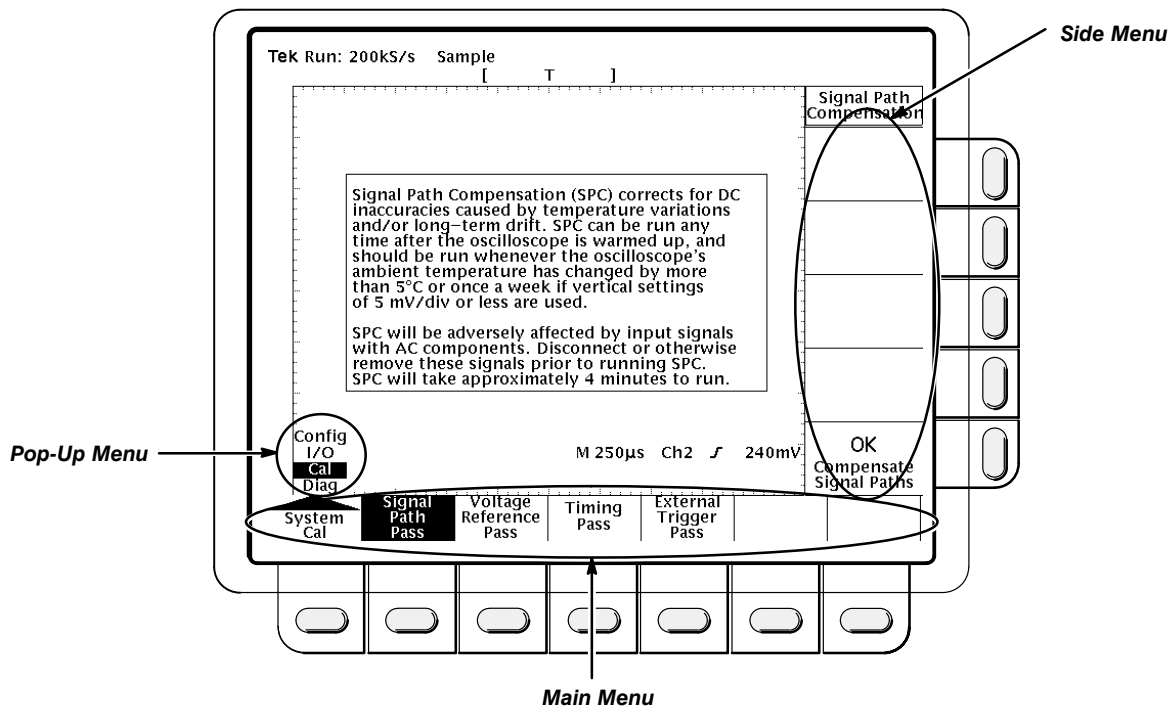

Figure 4-1: Menu Locations
- Refer to Figure 4-1: “Main menu” refers to the menu that labels the seven menu buttons under the display. “Side menu” refers to the menu that labels the five buttons to the right of the display. “Pop-up menu” refers to a menu that pops up when a main menu button is pressed.
6. Check that a square-wave probe-compensation signal of about five divisions in amplitude is on screen. (See Figure 4-1 on page 4-2 to locate the readout.)